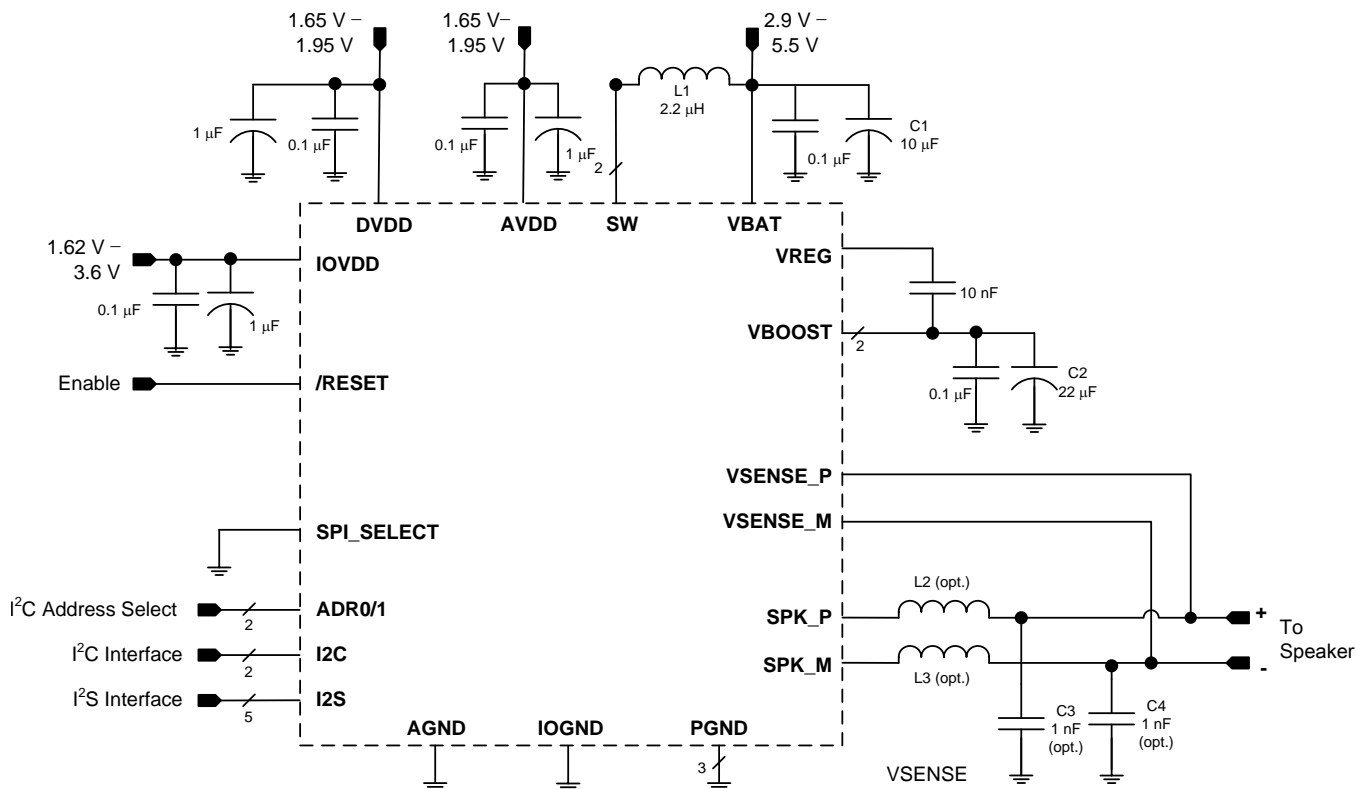

Figure 38. Typical Application - Digital Audio Input
The boost converter requires three passive devices that are labeled L1, C1 and C2 in Figure 38 and whose specifications are provided in Table 4. These specifications are based on the design of the TAS2555 and are necessary to meet the performance targets of the device. In particular, L1 should not be allowed to enter in the current saturation region. The saturation current for L1 should be > ILIM to deliver Class-D peak power.
The TAS2555 device supports edge-rate control to minimize EMI, but the system designer may want to include passive devices on the Class-D output devices. These passive devices that are labeled L2, L3, C3 and C4 in Figure 38 and their recommended specifications are provided in Table 4. If C3 and C4 are used, they must be placed after L2 and L3 respectively to maintain the stability of the output stage.
- Use supply decoupling capacitors as shown in Figure 38 and described in Power Supply Recommendations.